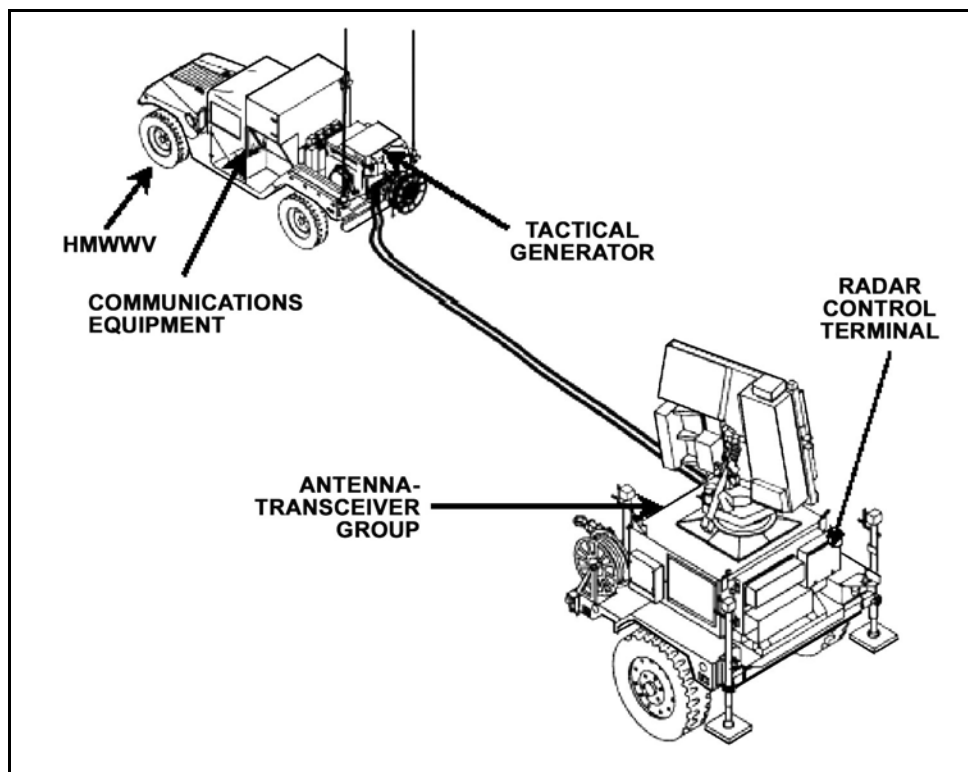

Figure 8-22. Sentinel radar system.
b. **Early Warning Alerts.** If the brigade has an attached SHORAD battery, the platoon will receive early warning alerts from the SHORAD battery and its elements. The SHORAD C3I Sentinel radar team can broadcast early warning of enemy air activity to SHORAD elements (battery, platoon, or section), to FA fire units, and to air defense liaison officers (LNOs). The SHORAD battery will then provide voice early warning on the brigade command net. If METT-TC factors permit, the SHORAD platoon provides voice early warning to the battalions. The Sentinel radar (Figure 8-22) provides a 360-degree detection capability for various air tracks (rotary- and fixed-wing aircraft, UAVs, and cruise missiles) to a range of 40 kilometers. The Sentinel radar is normally OPCON to the respective SHORAD battery commander.